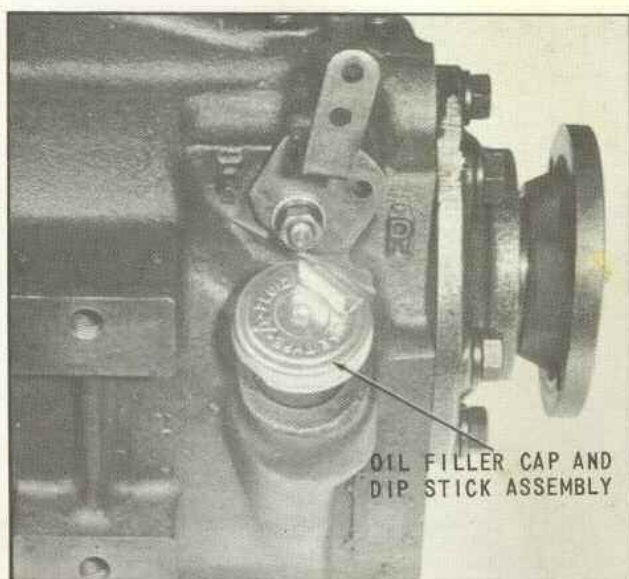

Fig. 85 Installation of Oil Filler Cap and Dipstick Assembly
1. Place oil filler cap and dipstick assembly in the oil filler tube provided on rear left side of transmission case, (Fig. 85). Push down on filler cap and dipstick until assembly "bottoms" on tube, then turn cap to right as far as cap screw permits.